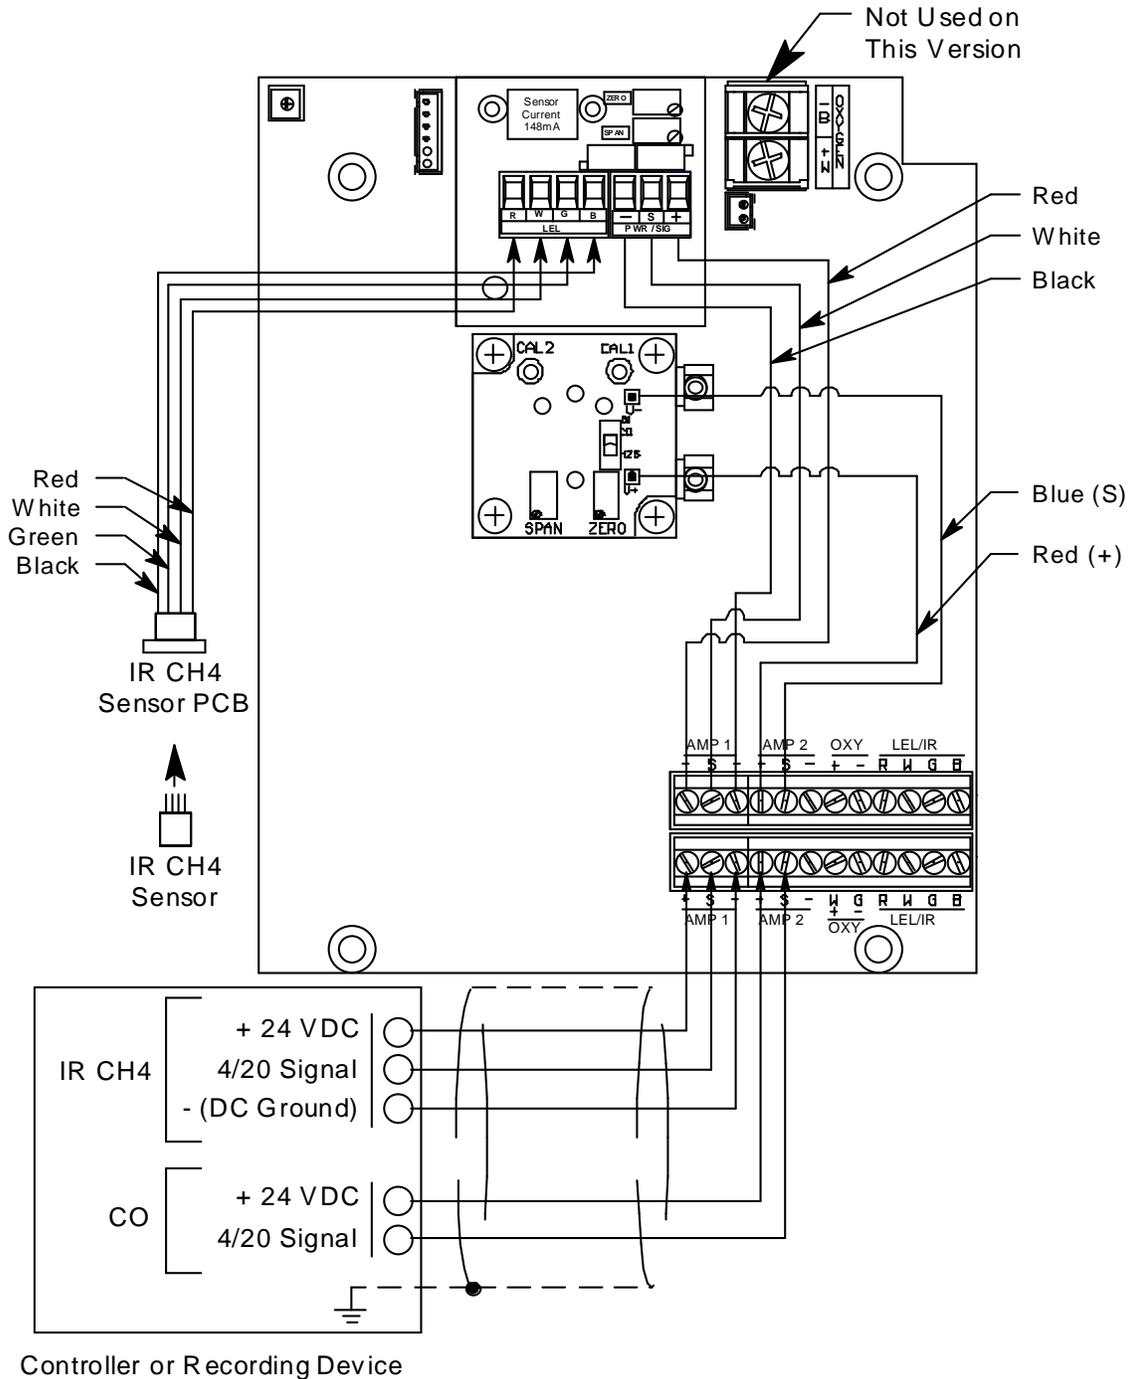

Figure 6: Wiring the Sample-Draw Detector to a Controller
5. Connect the cable to the sample-draw detector’s interconnect terminal strip as shown in Figure 6.
- Connect the wires to the applicable detector/transmitter terminal strip at the controller as shown in Figure 6. Refer to the controller operator's manual and the controller detector head specification sheet for the 35-3001A-08-03 for detector/terminal strip connections specific to the controller.